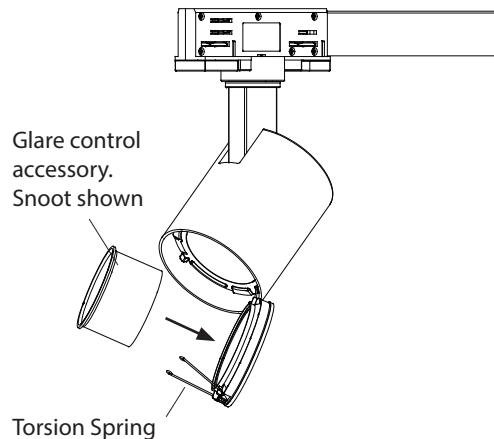

Fig.6
Step 2: Insert glare control accessory through the front frame. (See **Fig 6**)